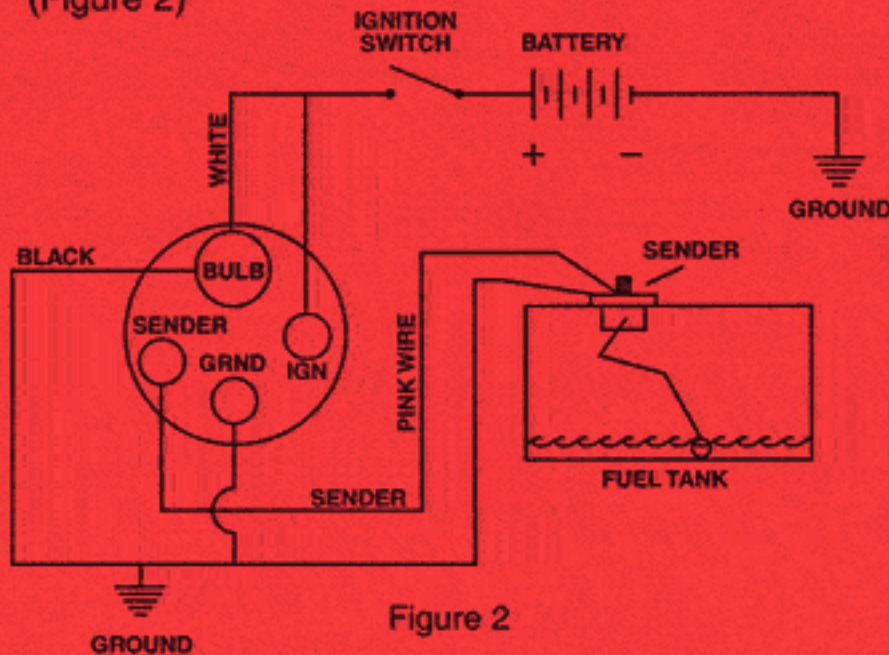

Figure 2
- Terminal location on receiving gauges may vary. Tempo's sending unit is compatible to 33-240 OHMS. (Figure 2)